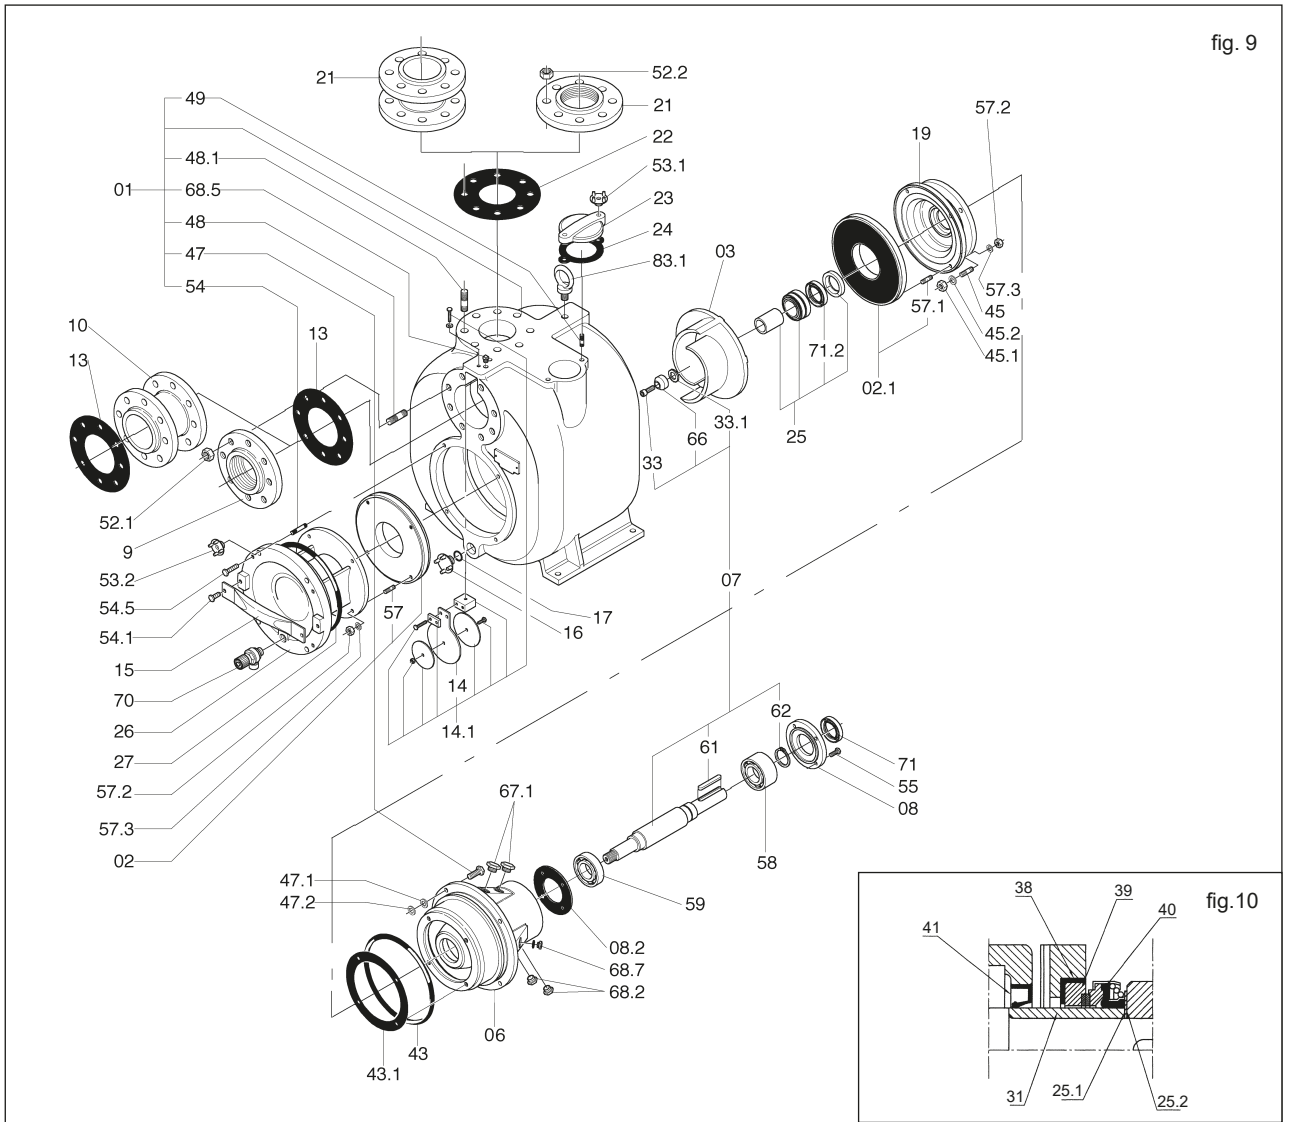

fig. 9
### 13.2 Replacing the impeller (fig. 9)
### 13.3 Replacing rear wear plate (fig. 9)
### 13.4 Replacing front wear plate (fig. 9)
### 13.5 Replacing the valve (fig. 9)
- Fit the stationary seal (39) complete with gasket (38). To make the operation easier, grease the seat and gasket. If necessary, use a wooden plunger or similar tool to push the stationary seal (39) into the seat in the head (19)
- Secure the head (19) to the mount (06) using the nuts (57.2)
- Smear the seal (40) and shaft sleeve (31) with oil and slip the rotating part of the seal onto one end of the shaft sleeve
- Slip the whole assembly onto the shaft and push to overcome the slight resistance offered by the lip seal (41).
- Slip on the seal support ring (25.1). Push it forward until the key (60) can be reassembled
- Refit the impeller (03), ogive piece (66) and tighten the screw (33) for series ST-R2, R3 and R8; for ST-R4 and R6, refit Belleville washer 33.1 (fig. 9)
### 13.8 Bearings maintenance (fig. 9)
check state of impeller through the inspection cover (26) (fig. 9), or remove the pump casing as described in section 13.2